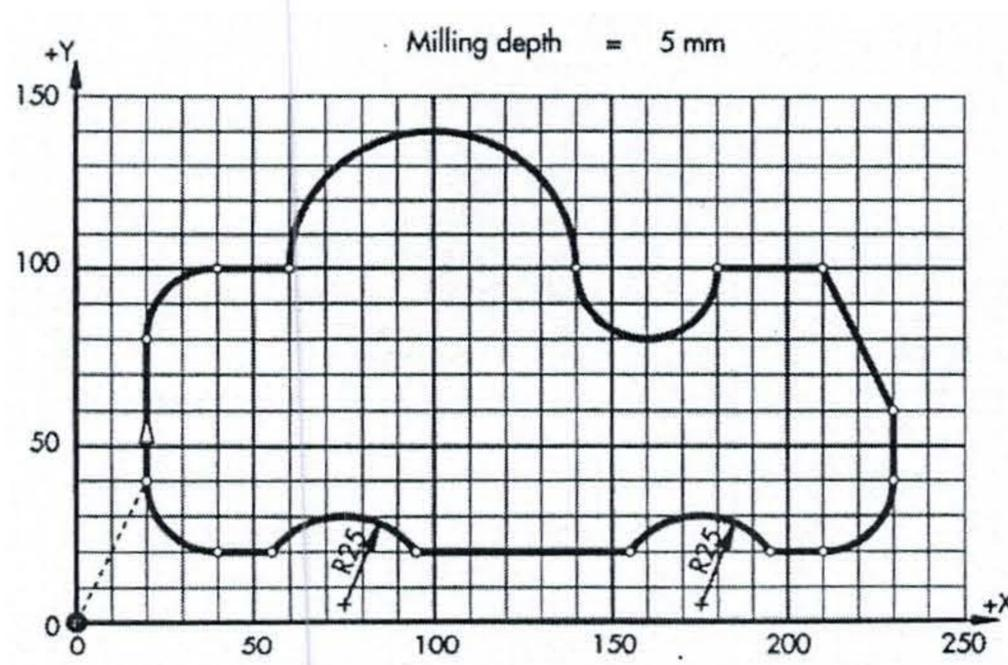

Figure QU6
b) Write a full APT program for machining of the profile for the part given in Figure QU6. The dimensions of the stock material are 250 x 150 x 10mm. Given data: milling tool T102 with diameter $D = 10$ mm, Feed rate $F = 80$ mm/min and spindle speed $S = 760$ rev/min. Any other information not given can be assumed and stated in solution.